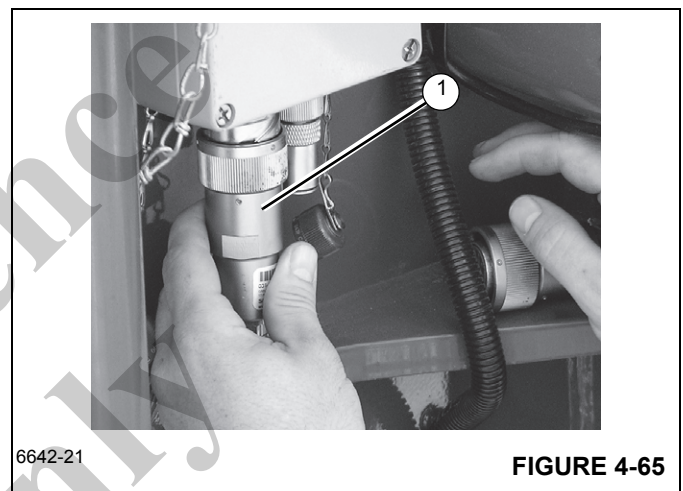

FIGURE 4-65
- Install cable end connector (1) Figure 4-65 from boom extension where dummy plug was removed.